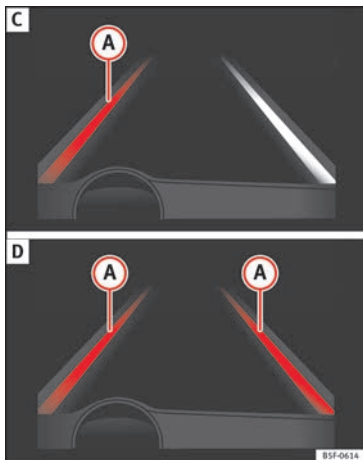

Fig. 204 On the instrument panel display: Indication on the Lane Assist system display (example 2).
- The system is operational, the highlighted line (A) indicates that there was a risk of involuntarily crossing the lane line and that the steering is being adjusted to correct the angle »» Fig. 204 C.
- The two highlighted lines (A) light up simultaneously when both lane lines are recognised and the Lane Assist function is active »» Fig. 204 D.